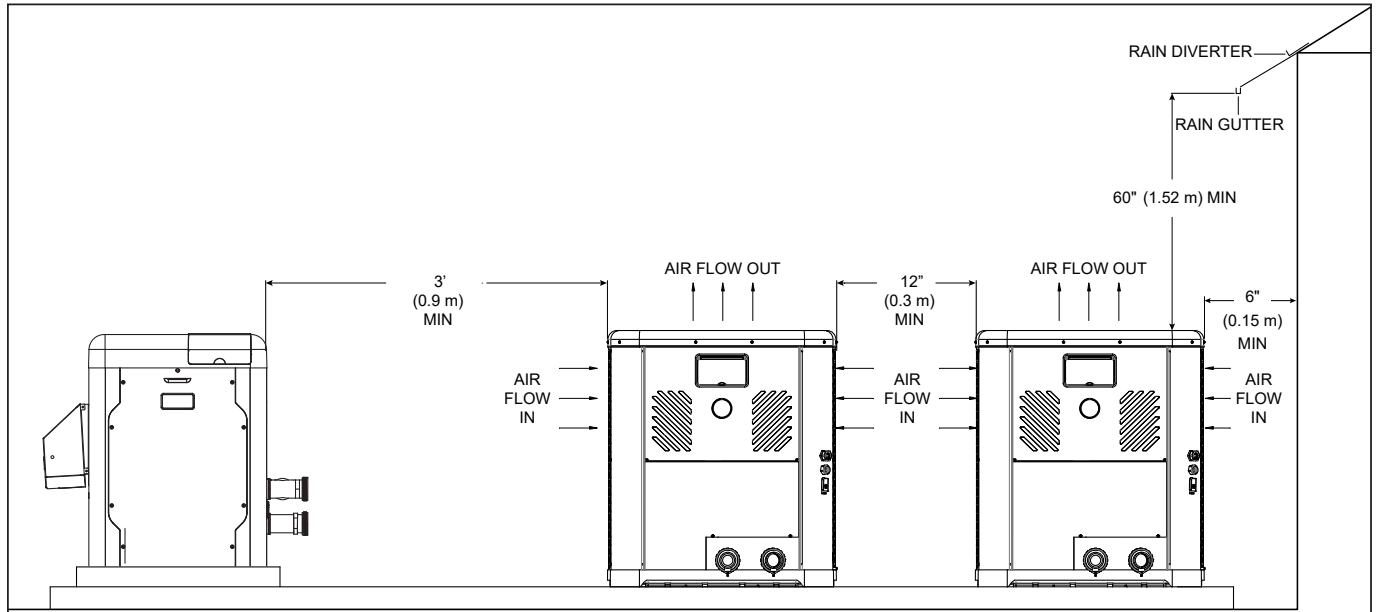

Figure 2. Installation Clearances
- When installing multiple HPPH or AC units in the same area, ensure to keep a minimum distance of 12 inches from unit-to-unit and 6 inches from unit-to-walls. Refer to Figure 2.
- This unit features an 'up-flow' discharge for quiet operation. Air is pulled up through the evaporator coil and discharged through the top grill. Allow at least 5 ft (1.5 m) clearance above the unit for unrestricted air discharge. Do NOT install the unit under a porch or deck. Refer to **Figure 2** for installation clearances. Allowing cold discharge air to recirculate back into the evaporator coil will greatly reduce the unit's heating capacity and efficiency. To minimize water piping, locate the unit as close as possible to the existing pool pump and filter.